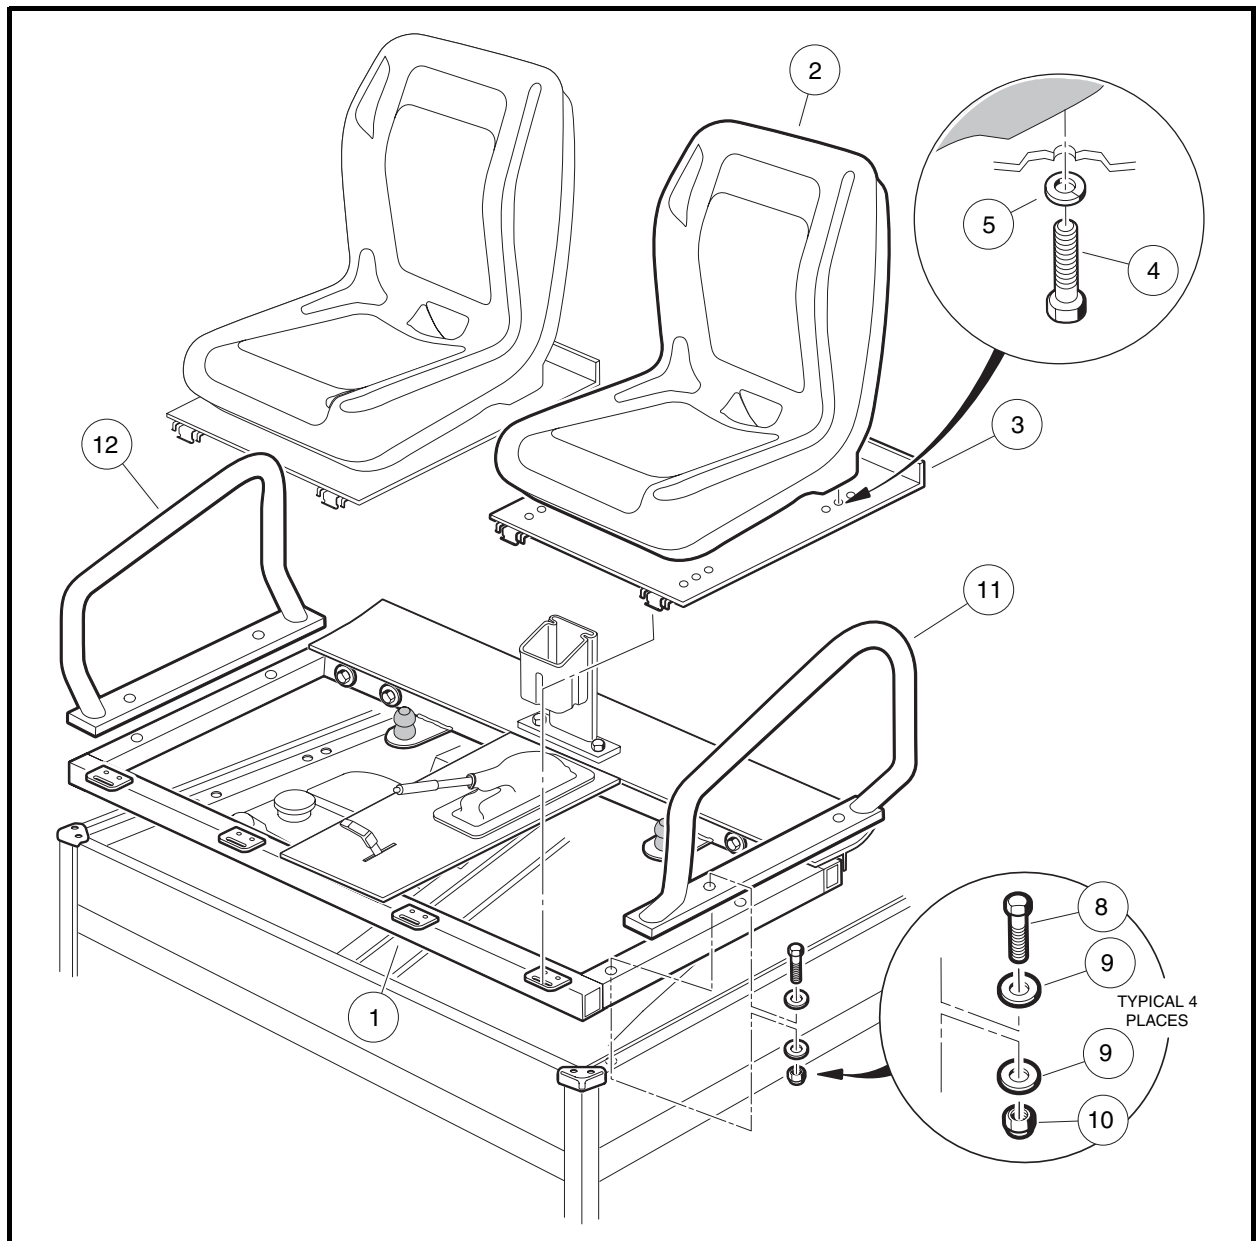

Figure 4-3 Front Seat Support
1. Remove seat (2) from vehicle.
2. Disassemble seat (2) from seat panel (3) by removing four bolts (4) and lockwashers (5) (**Figure 4-3, Page 4-6**).
3. Adjust seat to preferred position. Align holes in seat panel (3) with holes in seat (2) and secure with four bolts (4) and lockwashers (5). Tighten bolts to 96 in-lb (10.8 N·m).
1. Completely remove both front seats (2) from the vehicle (**Figure 4-3, Page 4-6**).
4. Remove four hex-head bolts (8), eight washers (9) and four locknuts (10) from the seat support (**Figure 4-3, Page 4-6**).
5. Remove the two armrests (11 and 12) from the seat support (1).
6. Lift seat support (1) from vehicle.
1. Reverse the front seat support removal process (**Figure 4-3, Page 4-6**).
2. Assemble bolts (8), washers (9), and locknuts (10) to seat support and armrests (11 and 12) and tighten bolts (8) to 13 ft-lb (17.6 N·m). **See following WARNING.**